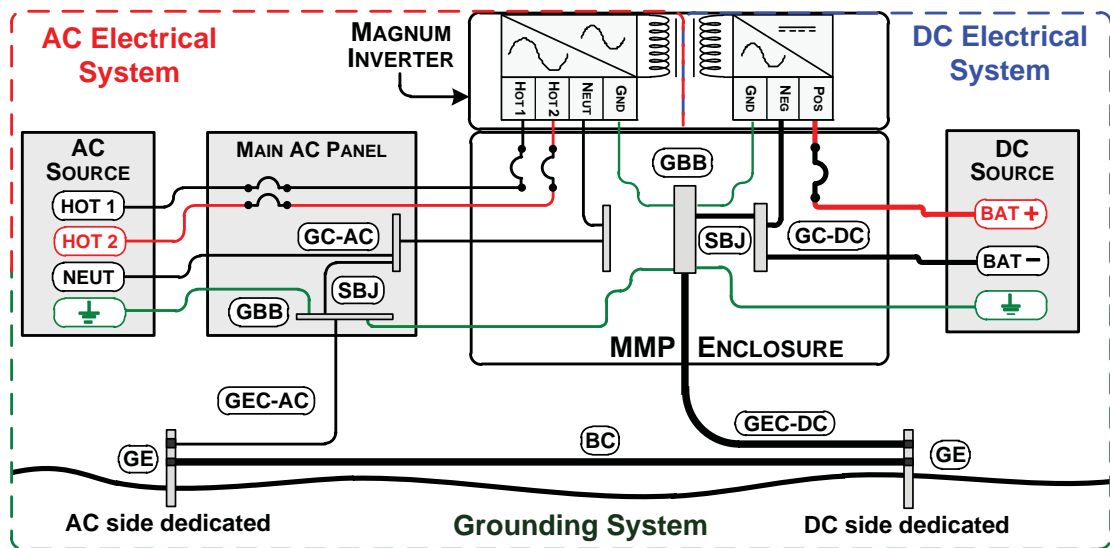

Figure 2-19, Multiple Connections to DC Ground Rod (Method 3)
3. **Multiple Connections to Ground – Multiple Electrodes (Method 3):** This method uses a separate grounding electrode for the DC system and the AC system (see Figure 2-19). In this method—since there are multiple connections to the DC Grounding Electrode (GEC-DC)—the size of the DC grounding electrode conductor cannot be smaller than the largest conductor in the DC system (usually the battery-to-inverter cable).